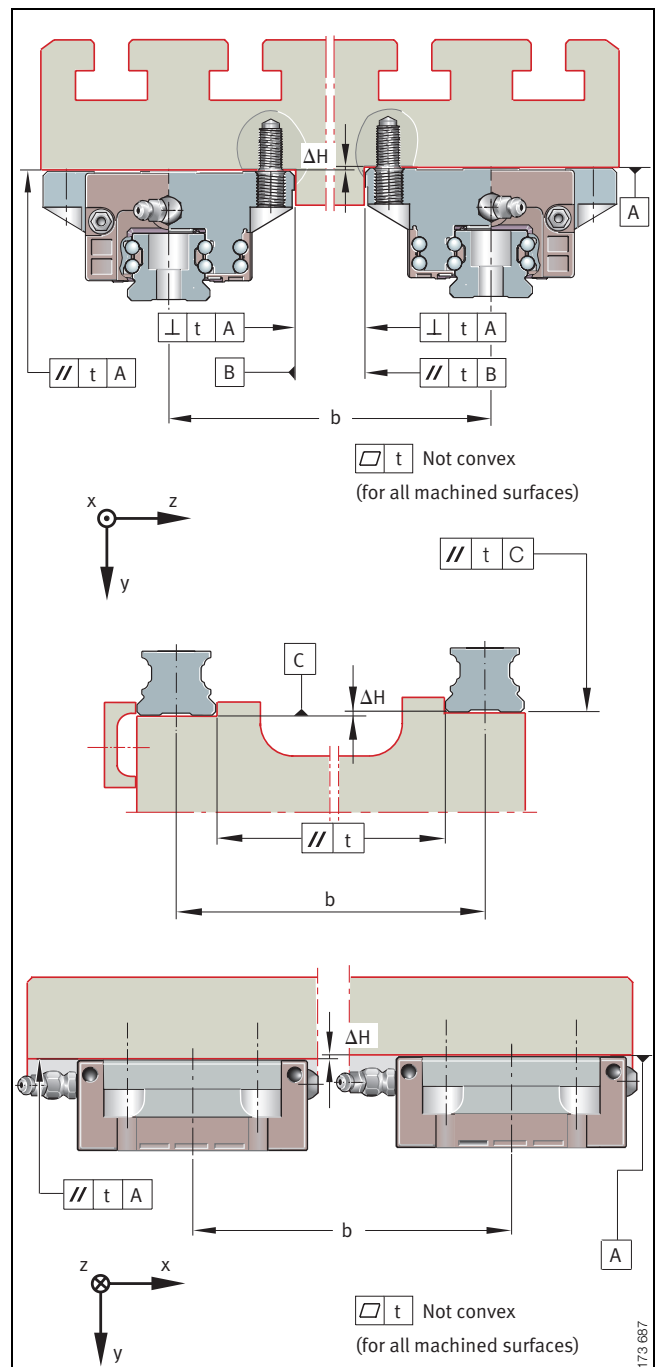

Figure 6 · Tolerances of mounting surfaces and parallelism of mounted guideways
- The tolerances in Figure 6 and Table 5 must be adhered to
The permissible values for ΔH (Figure 6) are given by the formula below. If larger deviations are present, please consult the Schaeffler engineering service.
For guideways arranged parallel to each other, the parallelism value t given in Figure 6 and Table 5 should be adhered to.